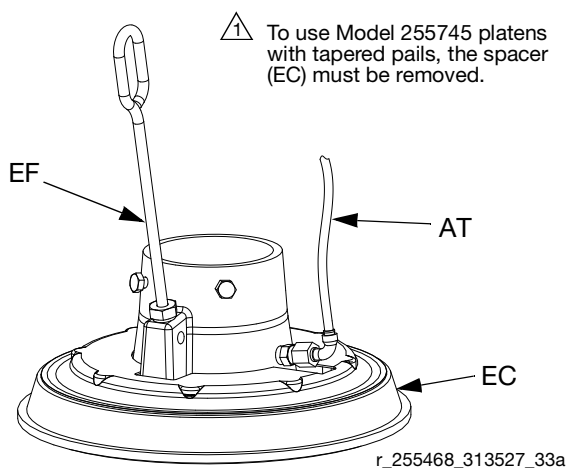

FIG. 15
See FIG. 15. If the platen does not come out of the pail easily when the pump is being raised, the air assist tube (F) or check valve may be plugged. A plugged valve prevents air from reaching the underside of the plate to assist in raising it from the pail.
3. Clear air assist tube (AT) in platen. Clean all parts of valve and reassemble.
4. Remove bleed stick (EF) from platen. Push bleed stick through bleed relieve ports to remove material residue.